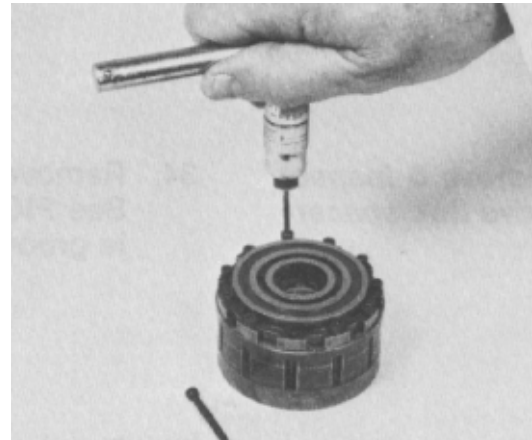

Figure 63
27. Remove the eleven hex socket head screws, that hold the metering package together (Fig. 63). Use a 3/32 in. Allen wrench. Inspect the screws for thread and socket damage and replace as necessary.